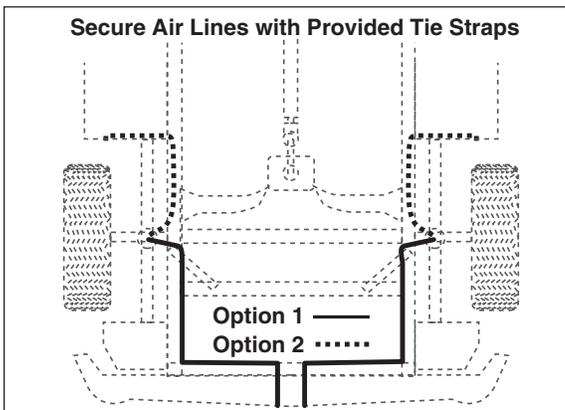

Figure 16
The wheel well flanges; The license plate recess in bumper; Under the gas cap access door; Through license plate (Figure 16).
5. Keep at least 6" of clearance between the air line and heat sources, such as the exhaust pipes, muffler, or catalytic converter. Avoid sharp bends and edges. Leave at least 2" of slack when securing the air lines to allow for any movement that might pull on the air line (Figure 16).